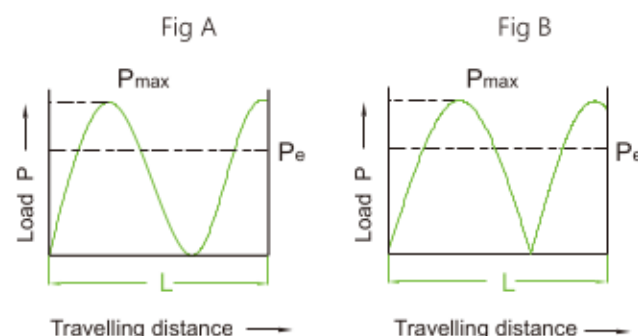

Fig 3.5.2
(2) When load changes according to sine curve (see Fig 3.5.2)